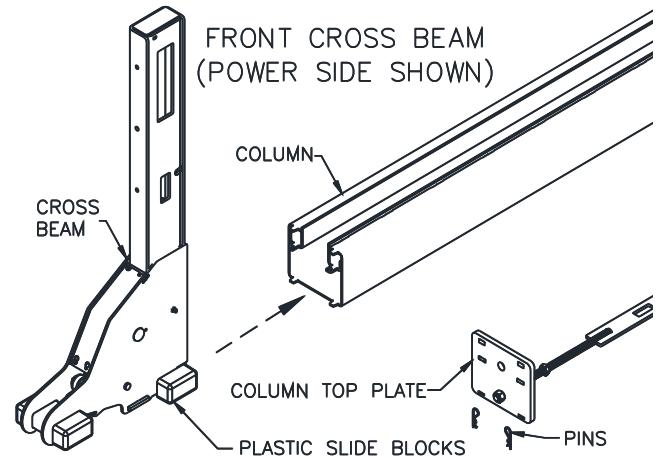

Fig 18 – Front CrossBeam Installation
- 42) Position the two front columns near the front corners of the lift on their sides; remove the pins from the top of the column and slide the top plate/ladder assembly out. Reach inside and pull out the Slide Blocks out of each crossbeam and place on 2"x4" ends. Insert the front crossbeams as shown in **Fig 18**. Notice that the front columns are identical, but the crossbeams are not. Make sure the slide block contact areas are greased with heavy viscous grease.